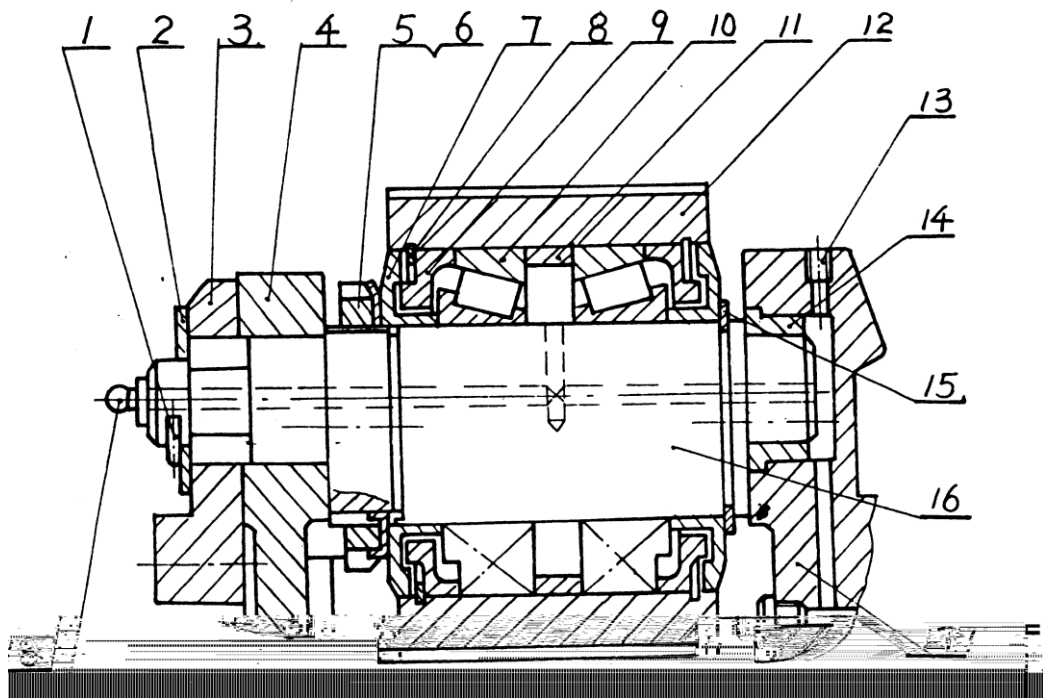

Figure 6 ROLLER ASSEMBLY
rollers. The two parts rotate oppositely and press the material into the die holes. The material is pelleted in the die holes and pressed out from the holes and cut to the needed length by the knife. The pellet feed is discharged out of the machine. See Figure 6 for the mounting of the roller. The roller (12) is mounted on the roller shaft (16) by two bearings (10). The inner end of the roller is fixed with the main Shaft (17) and the outer end is fixed with the roller support (4). As the roller shaft is eccentric, the clearance between the die and roller can be adjusted by the rotation of the roller. The clearance can be adjusted by rotating the roller adjusting gear.